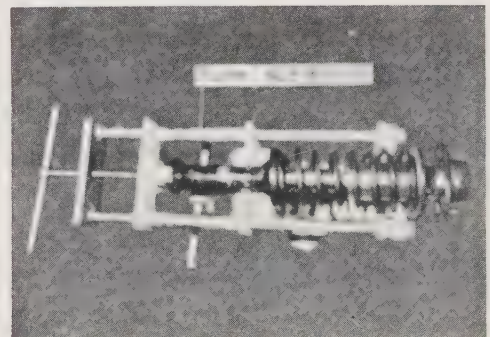

Fig. 11.23. Dismantling the damper strut (Sec. 11)
- 1 Unless a coil spring compressor is available it is recommended that you take the strut assembly to your local Subaru dealer for servicing. It is possible to make a suitable tool to compress the spring, but if you do, make sure it is of solid construction, as a spring coming free at the wrong time can be very dangerous. Fig. 11.23 shows the spring compressor supplied by Subaru.